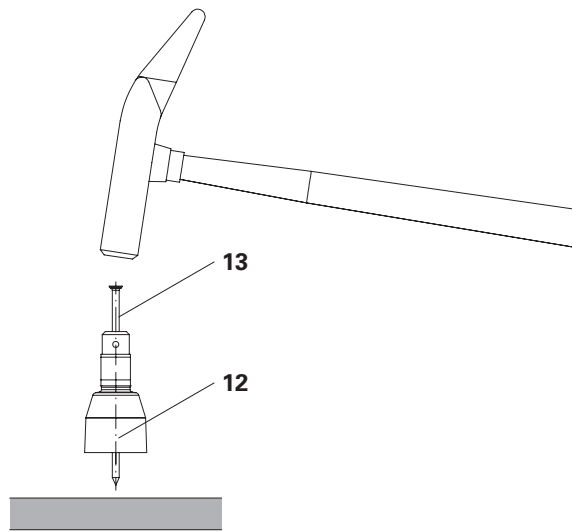

Fig. A3.04
2. Position the Threaded Cone M24/40 (**12**) on the formlining and hammer in the wire nail Ø 4.6 x 130 (**13**) all the way. (Fig. A3.04)